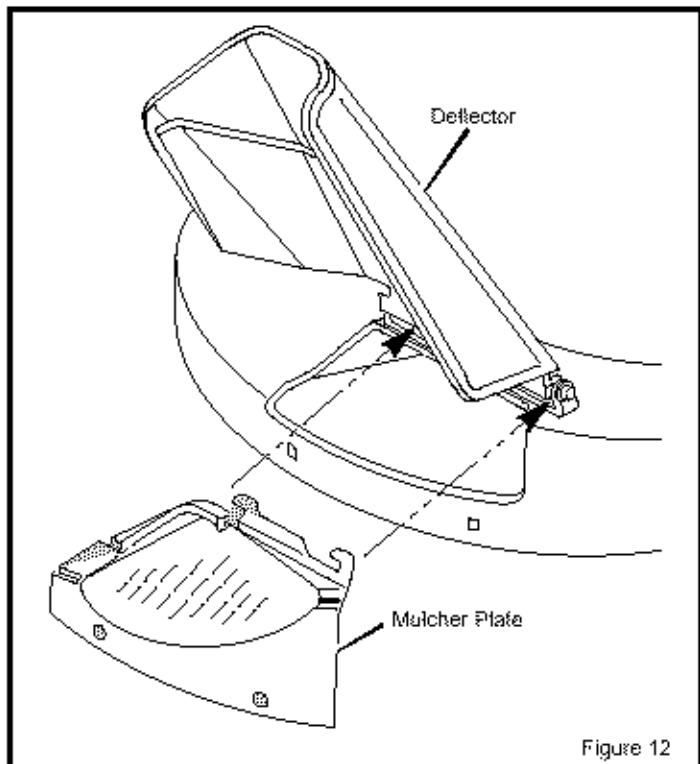

Figure 12
3. Lift the mulcher plate away from the mower housing (Figure 12).
2. Raise the deflector. Slide the mulcher plate under the deflector (Figure 12).